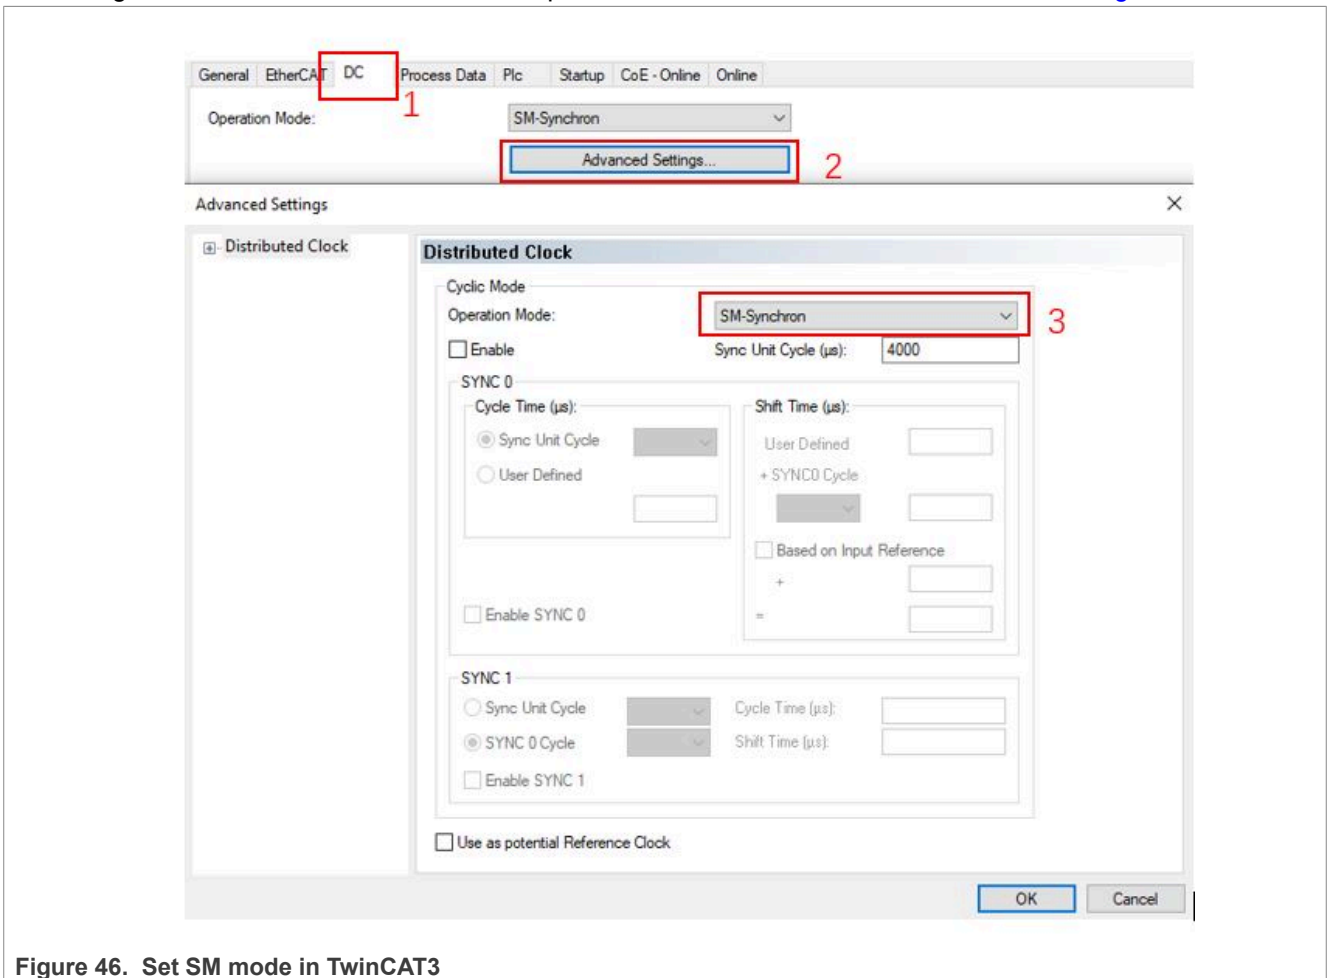

Figure 46. Set SM mode in TwinCAT3
1. Configure SM mode in TwinCAT3. The steps to set SM mode in TwinCAT3 are shown in Figure 46.